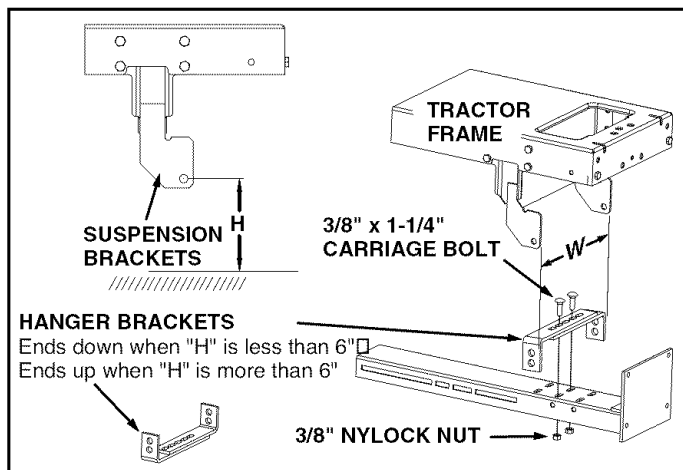

FIGURE 2
IF YOUR TRACTOR HAS FRONT DECK SUSPENSION BRACKETS, SKIP TO INSTRUCTIONS FOR FIGURE 2.
- Locate the Mower Deck Suspension Brackets at the front of the tractor frame. See figure 2.
- Measure the distance "H" from the lower hole in the Mower Deck Suspension Brackets (or Frame Brackets) to the floor. If the distance is 6" or less, the Hanger Brackets will be attached with legs pointing down. If the distance is more than 6" the Hanger Brackets will be attached with legs pointing up. See figure 2.
- Measure the inside distance "W" between the Mower Deck Suspension Brackets (or Frame Brackets). The legs of the Hanger Brackets must fit between these brackets. See figure 2.
- Stack the short Hanger Bracket on top of the long one so that the legs are at opposite ends facing up. See figure 2.